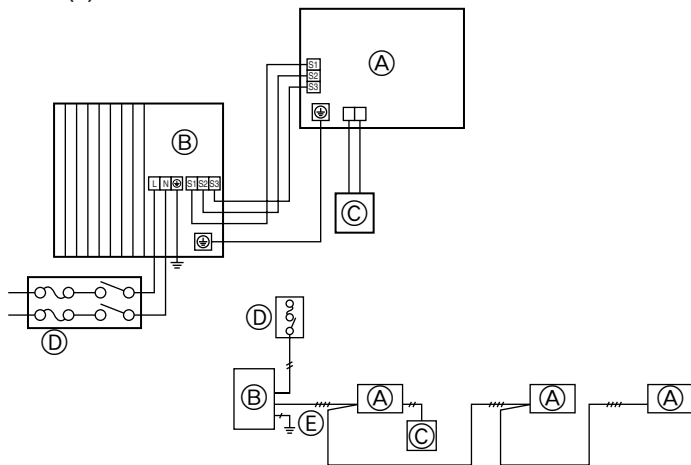

Fig. 6-1
6.1. Precautions (Fig. 6-1)
- Grounding protection with a no-fuse breaker (earth leakage breaker [ELB]) is usually installed for (D), (F).